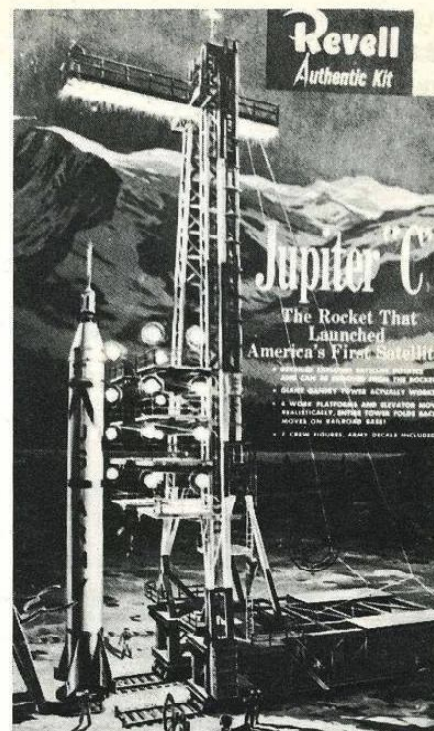

Fig. 3. Revell Jupiter "C" missile
The 20 mm gun at the stern is a pretty easy installation. Add a few details to the kit parts, then glue the gun and its pedestal mount in place, Fig. 3. If you haven't already done so, install the four deadlights in this area.
**Demand.** If few people want the kit, its value will be low. When everybody wants it, the value rises. For many years, the Revell Jupiter "C" missile kit (No. H-1819) was difficult to obtain, Fig. 3. Revell reissued it in its "History Makers" series in 1983. The original kit will still be collectible but its value will likely drop.